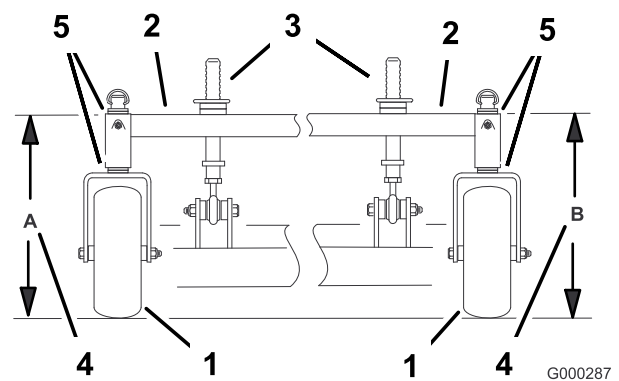

Figure 58
- Measure carrier frame height at location **A** (Figure 58).
- Measure carrier frame height at location **B** (Figure 58).